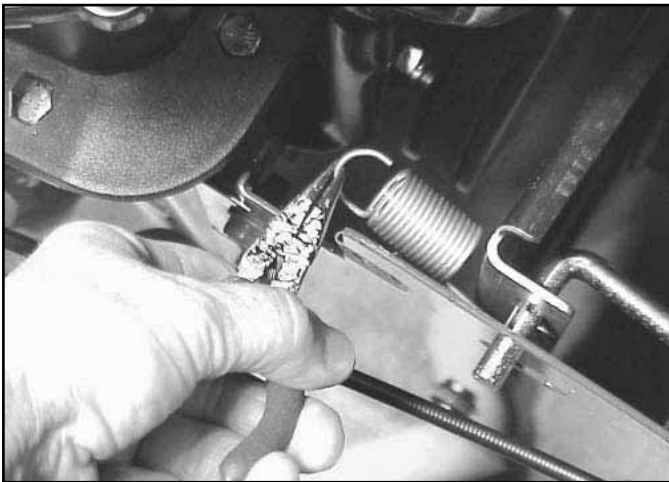

Fig 139
22. Remove extension spring from housing (Fig. 139).